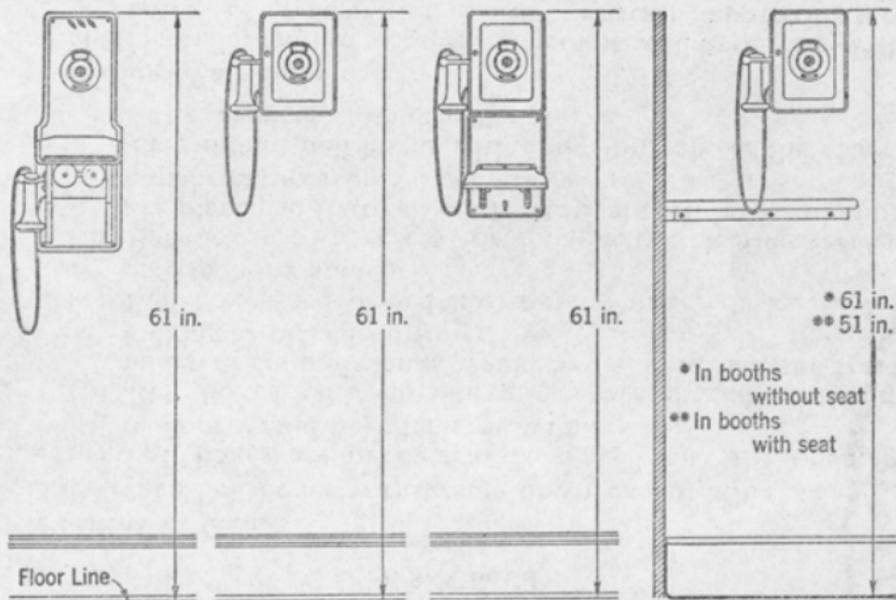
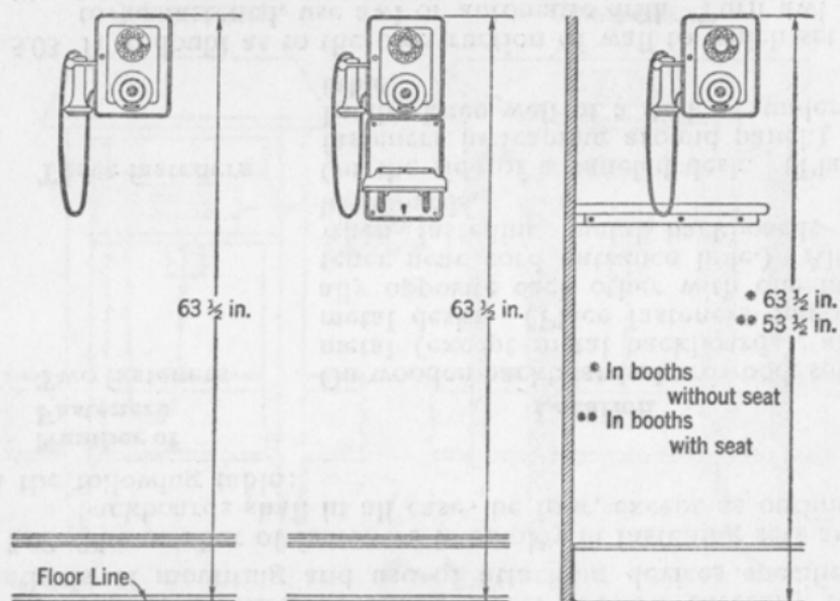

Fig. 9.
Fig. 10.
3.16 The height from floor to top of set of some of the more commonly used wall sets is shown in Fig. 9 and Fig. 10. This height gives approximately the standard height of 56-1/2 inches to center of transmitter.